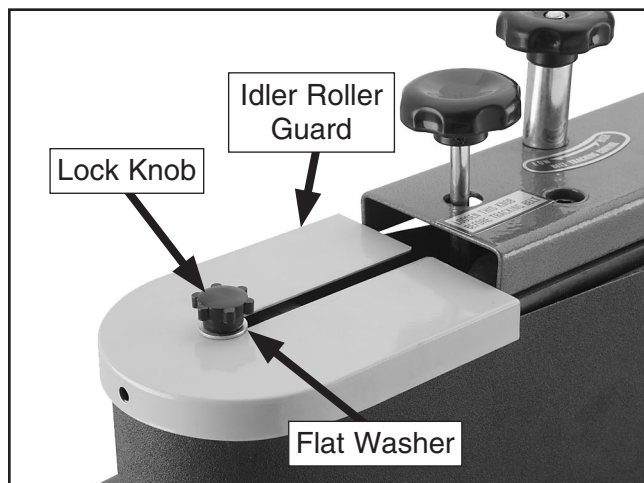

Figure 13. Idler roller guard installed.
- Install the idler roller guard onto the left end of the sander with the pre-installed $\frac{1}{4}$ "-20 lock knob and $\frac{1}{4}$ " flat washer, as shown in **Figure 13**.